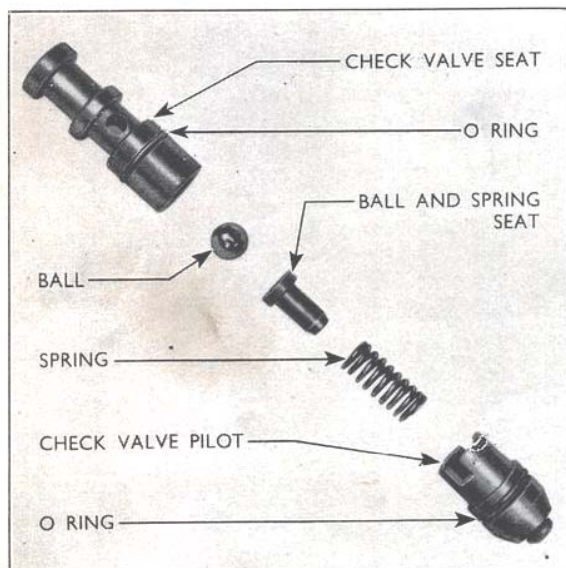

Fig. 16
2. Unscrew the check valve plug and, using a pair of sharp nosed pliers, extract the valve pilot, spring, spring guide and ball, from the check valve passage in the cover. (See Fig. 16.)